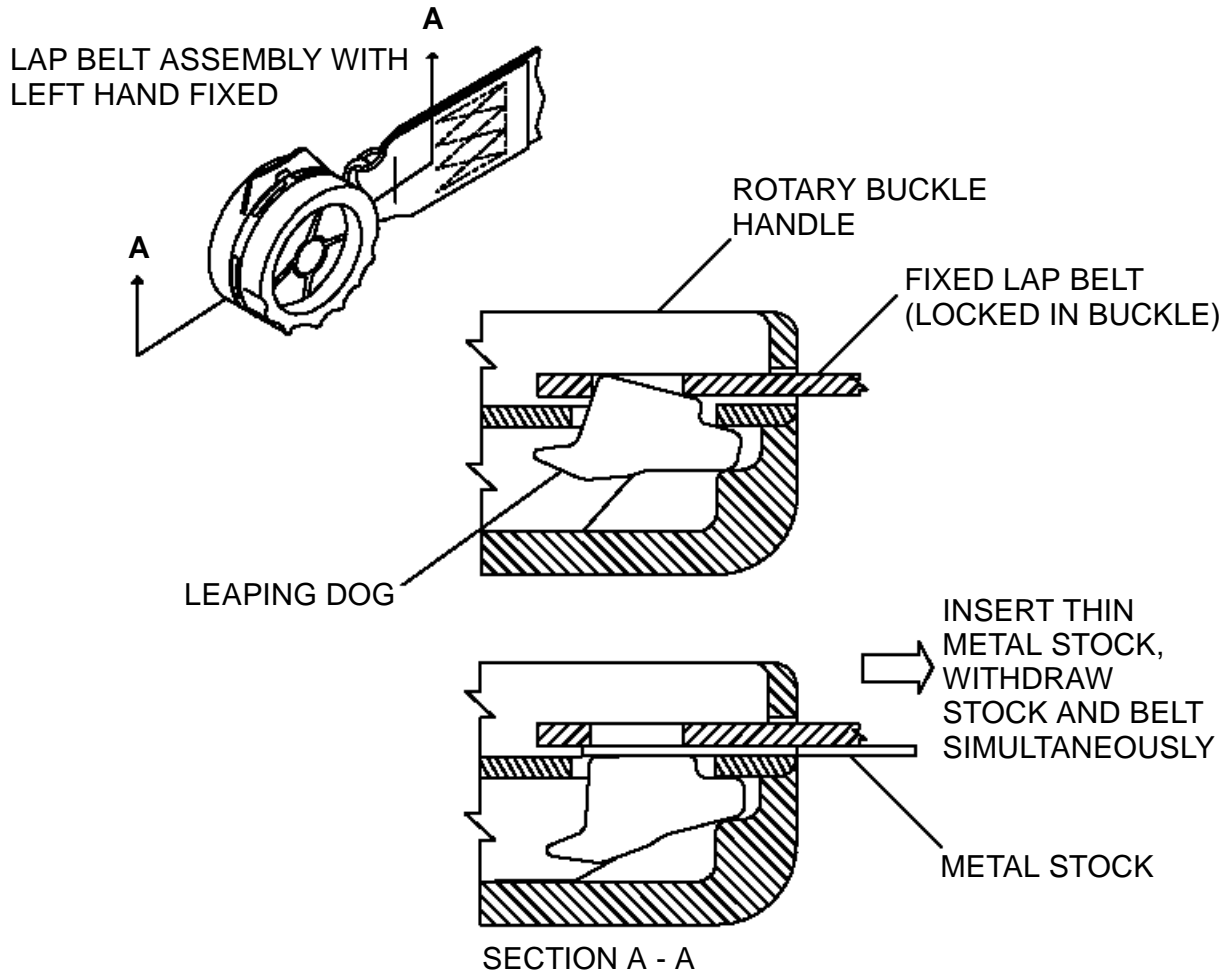

Figure 301. Disassembly of Fixed Strap
- (1) Insert a piece of thin metal stock into the slot of the rotary buckle and push inward between the fitting and the buckle locking mechanism (Figure 301).
- (2) Pull the strap from the buckle.
- (3) Remove the buckle pad from the buckle, if necessary.